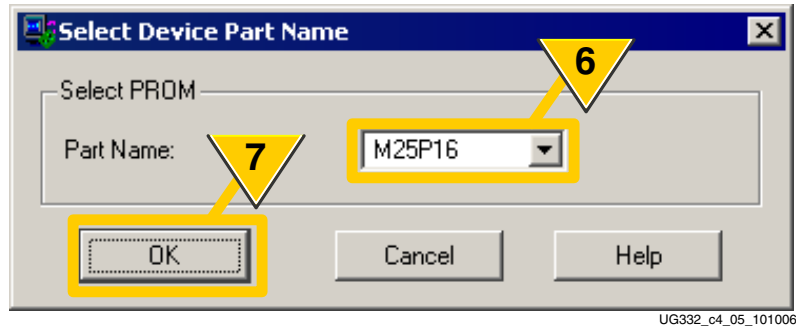

Figure 4-18: Select a Supported SPI Flash Memory Device.
- Select the **Part Name** for a supported SPI serial Flash, as shown in Figure 4-18.